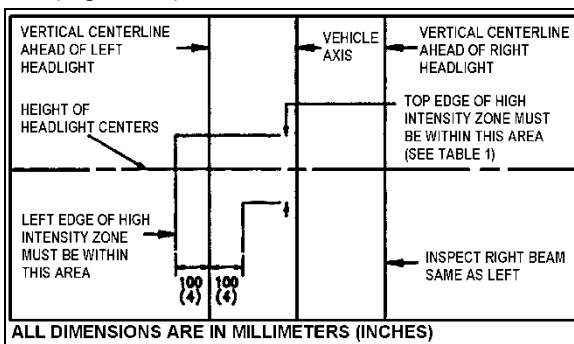

FIGURE 46: AIM INSPECTION LIMITS FOR LOWER-BEAM HEADLIGHTS 06506
7. The inspection limits in the vertical direction for low-beam headlights or the low beam of a dual-beam headlight, shall be as described in table 1. In the horizontal direction, the left edge of the high-intensity zone shall be located from 10 cm (4 in) left to 10 cm (4 in) right of the vertical centerline of the beam. The viewing screen shall be located 7.6 m (25 ft) in front of the vehicle (Figure 46).